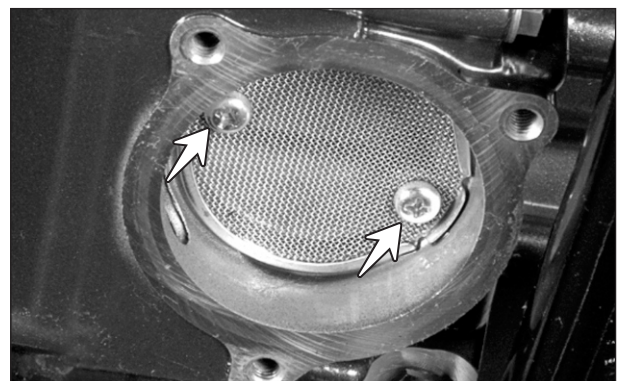

Fig. 2.32
- Loosen the CRR pan head screw (M5x12 - 2 nos.) and remove the strainer complete engine oil along with a 'O' ring. Inspect the strainer for any damage. Replace if necessary. Otherwise clean and reassemble the parts in the reverse order of removal. (Fig. 2.32)